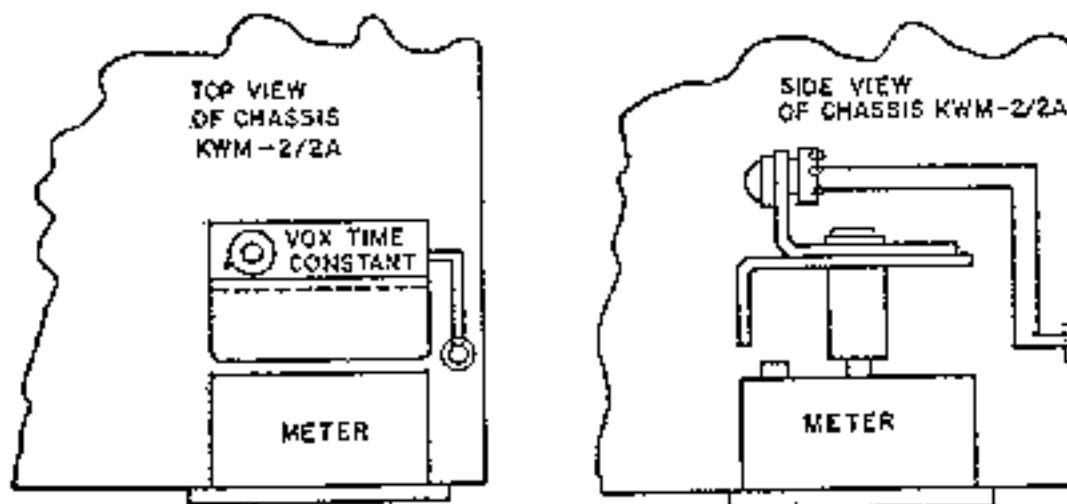

Figure 3. Installation of VOX Time Constant Control and Brackets
8. Mount VOX TIME CONSTANT control bracket (546-7971-00) on the meter shield using hardware removed in step 7. See figure 3.
10. Solder the other wire to the counterclockwise terminal (as viewed from the shaft end) of the control. Refer to figure 3.